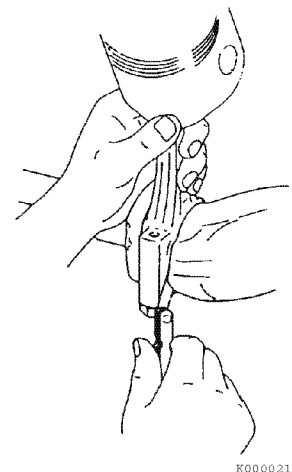

Figure 6-52
1. Using a feeler gauge, measure the connecting rod side clearance as shown (**Figure 6-52**). See Connecting Rod on page 6-8 for the standard limit. If the measurement is out of specification, replace the crankshaft, connecting rod, or both.